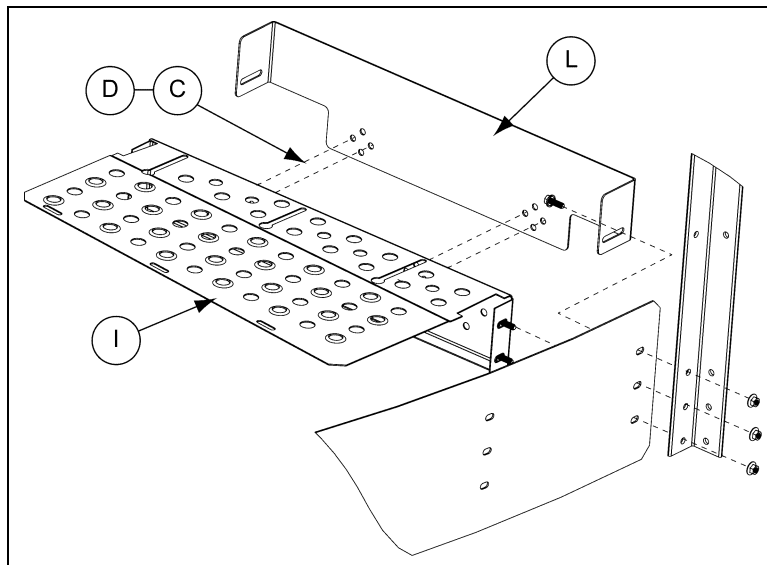

Figure 5E
4. Install the end toe board (L) to the end plank (I) using bolt (C) and nut (D). (See Figure 5E.)